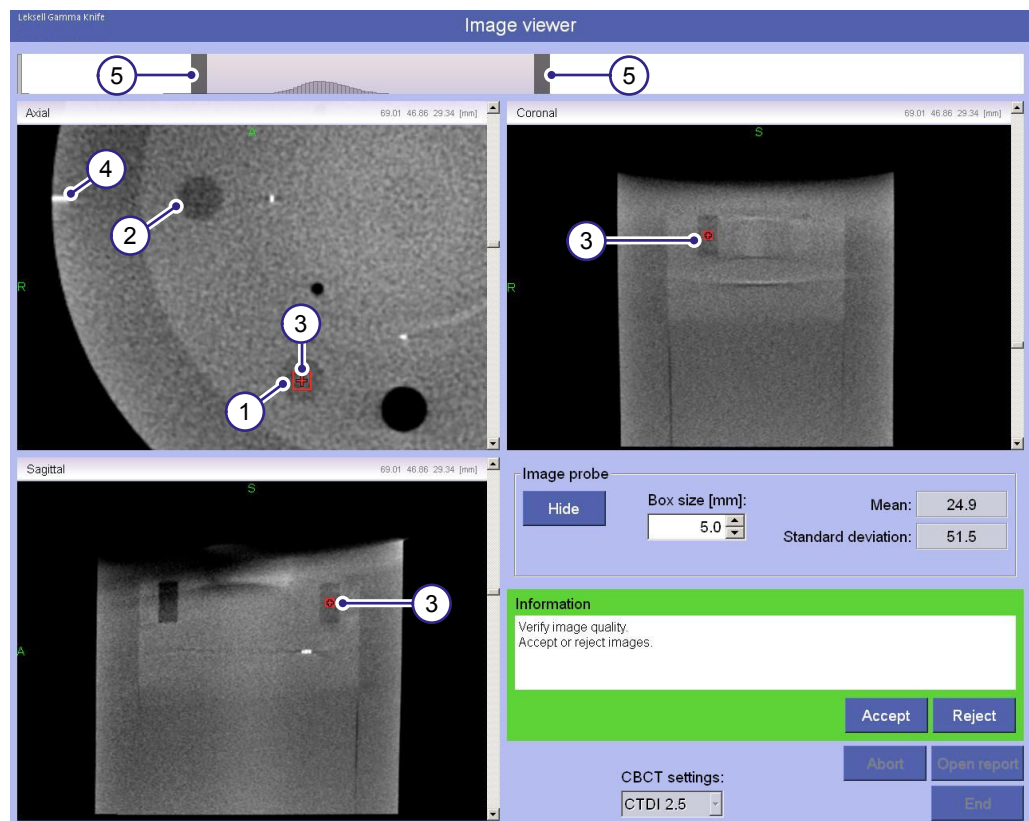

Figure 6.9 Image stack section with material inserts
- 1 Use the scroll bars to move the image probe and find the image stack section that shows the material inserts. Move to the center of the image stack section where the marker (4) is shown. See Figure 6.9.
- 2 Use the handles (5) at the top of the window to adjust the contrast of the images.